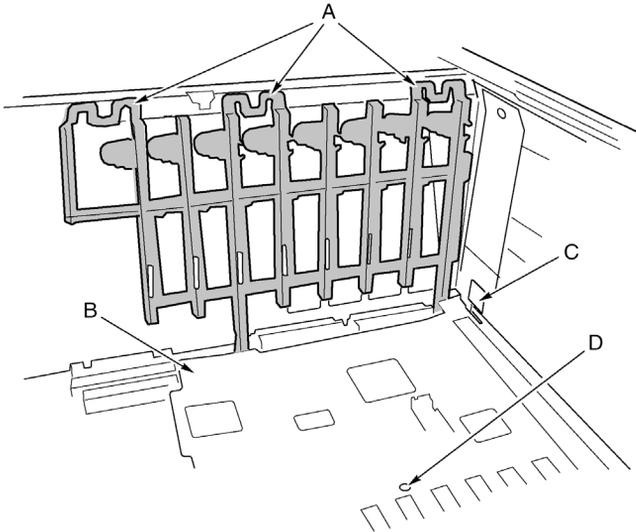

Figure 24 - Removing the front retention mechanism
- 7 A plastic retention mechanism for the PCI add-in cards is fastened to the front of the electronics bay by three clips (Figure 24, A). Release each clip by pressing down on the tab and remove the retention mechanism.
- a Unscrew the captive screw holding the overlay in place (Figure 24, D).
- b Near the middle of the mainboard, lift the edge of the overlay until it is clear of the connectors on the board (Figure 24, B).
- c Slide the overlay toward the front of the electronics bay and unhook it from the two tabs (Figure 24, C).
- a At the side of the electronics bay where the edge of the mainboard is inserted into the foam, place the two slots in the overlay over the hooked tabs (Figure 24, C on page 58).
- 5 Install the front retention mechanism for the PCI add-in cards on the front wall of the electronics bay (Figure 24 on page 58).